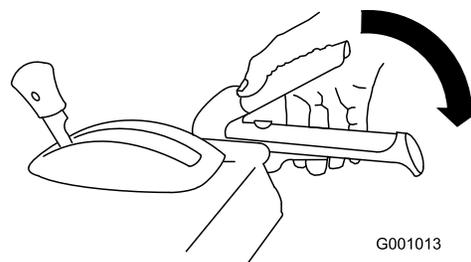

Figure 40
- To engage the auger/ impeller drive, squeeze the right hand (auger/ impeller) lever to the handgrip (Figure 40).